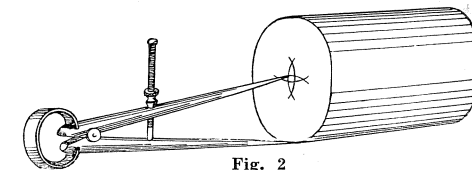

**Fig. 1. PARTS OF A MODERN LATHE**
**Parts of a Modern Lathe.** Fig. 1 shows the parts of a modern lathe. Study this; use it as a reference while reading the following directions.
**CUTTING SPEEDS.** The speed a cut is taken varies according to the kind of metal being cut and the kind of cut—whether roughing or finishing. Brass may be cut faster than steel and a light cut faster than a heavy one. To change speeds; pull release lever "E", Fig. 1, toward front, arrange belts on cone pulleys to desired speed. Sliding collar "D" to right engages compound drive mechanism, to left, direct drive. Slowest speeds are in compound drive.